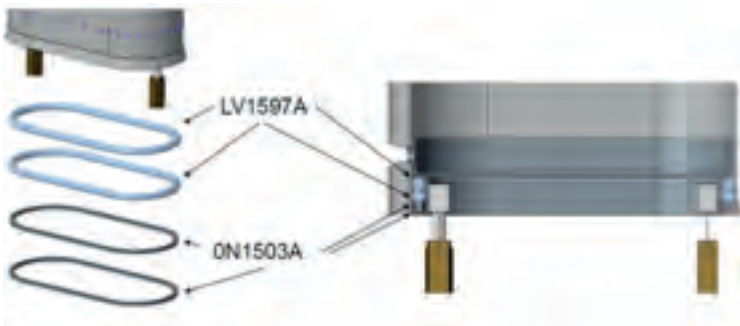

Figure 10
g) On the bottom of the heat exchanger, the two metal rings and two glass wool cords are placed to ensure the sealing shown in the **Figure 10**.